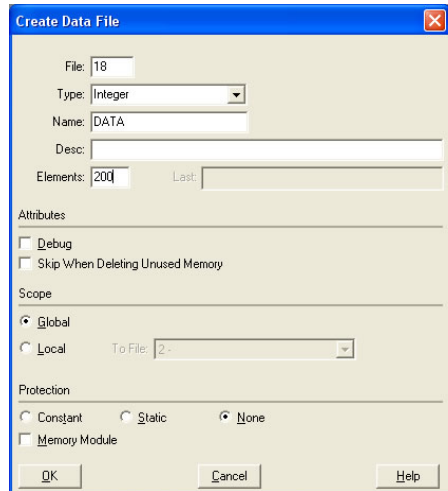

Figure 116: Creating a Data File
- c) Follow the same procedure to create a data file. This file will be used to store the incoming data read from the interface card. Enter a file number (e.g. 18), set the type to "Integer", enter a descriptive name (e.g. "DATA"), and enter a number of elements (e.g. 200). Refer to Figure 116. Click OK to create the file.